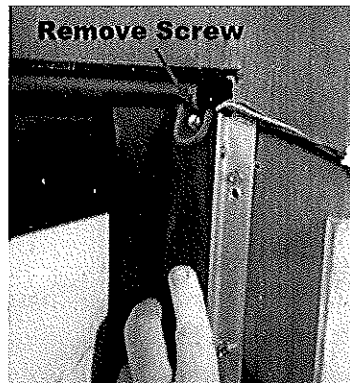

Figure 15 Removing the bulb seal screw
- If applicable, remove the top screw from the bulb seal at the top of the **VERTICAL CHANNEL (FIGURE 15)**.